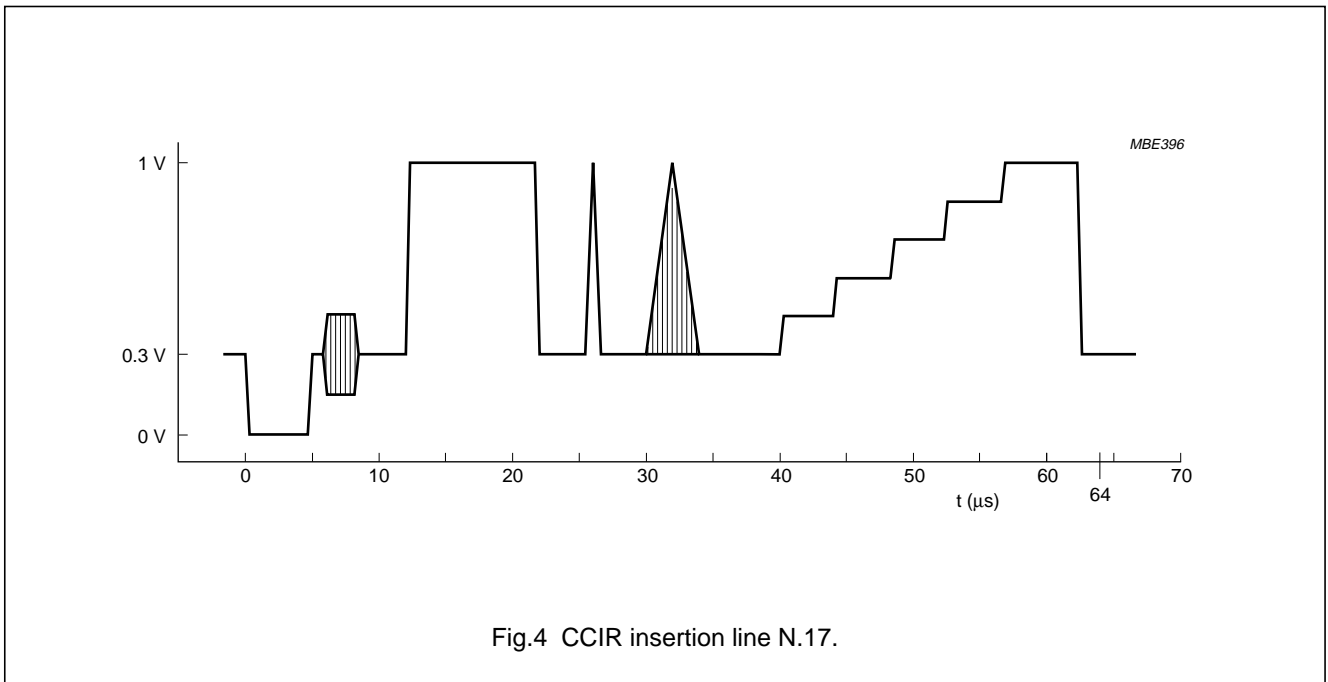

Fig.4 CCIR insertion line N.17.
- Ratio between the CCIR 17 line bar amplitude (corresponding to the level difference between black and white; see Fig.4 and the RMS value of the noise on a black line (line 22 or 335) measured on the video signal after demodulation for PAL G standard. Measurement is unweighted, done between 200 kHz and 5 MHz.